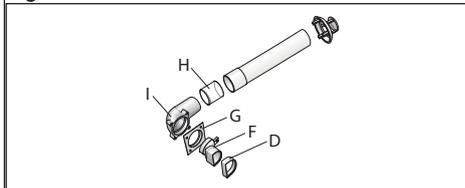

Fig. 15
- Insert pipe \varnothing 35 mm or 90° elbow into adapter, putting the relevant seal **G** in-between, to be fitted in the coupling of the elbow or pipe (Fig. 15).
- To join an elbow to a pipe or put two pipes together, engage and cover them with the seal **H** (Fig. 15).